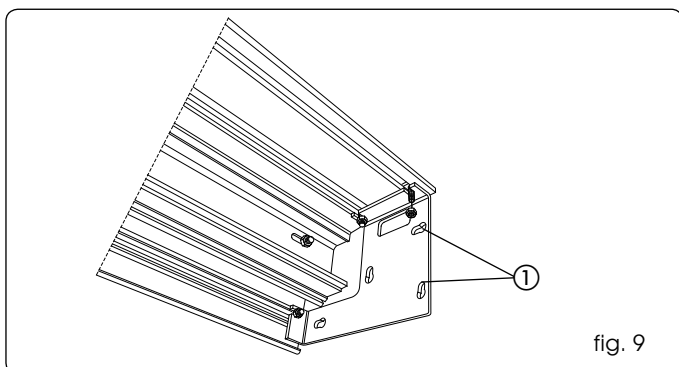
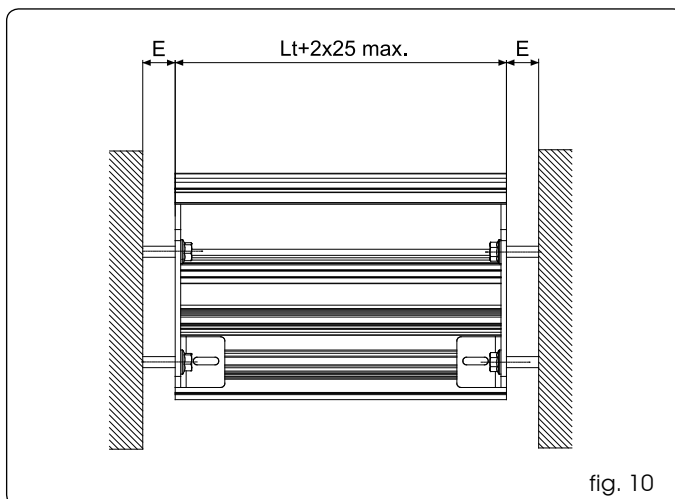

fig. 9
fig. 10
The self-supporting profile is supplied pre-assembled to the support profile and with the side brackets already fitted on the header (fig. 9).
Secure the header to the wall, using the holes on the side plates (fig. 9 ref. ①), using adequate expansion plugs (not supplied) and, if necessary, providing side shims for the spaces E (fig. 10).